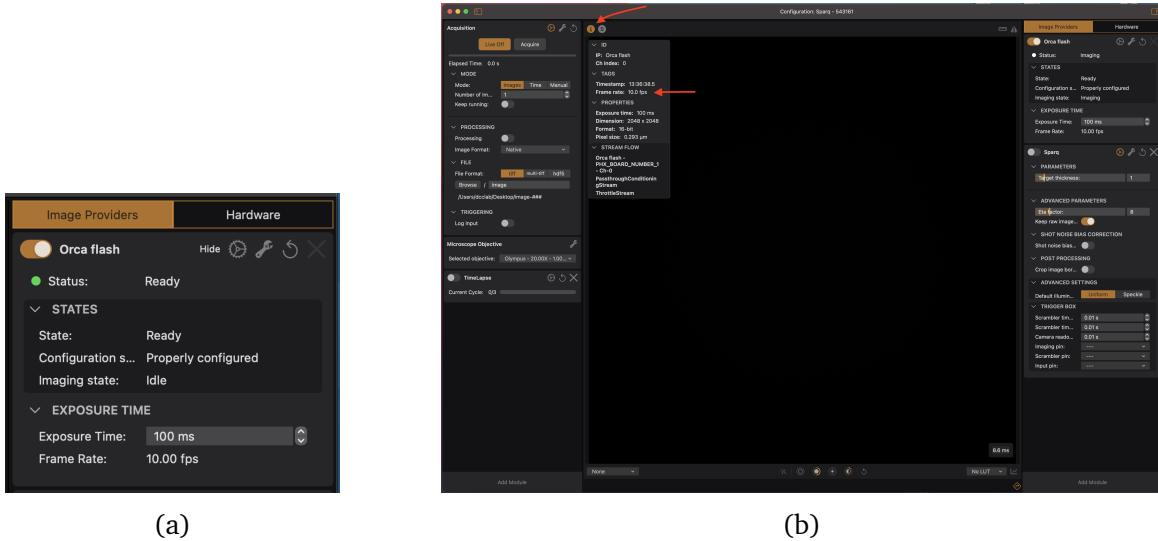

Figure 13
- iii. This should also change the frame rate in the information window when Nirvana is in *Live on* mode (see figure 13).